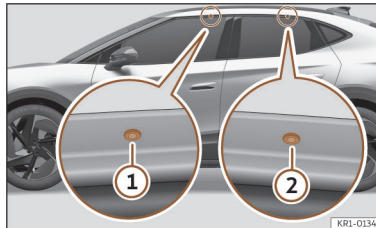

Fig. 174 Attachment points for the crossbars for the roof carrier.
The front and rear attachment points ① and ② are only visible when the doors are open >>> **Fig. 174.**